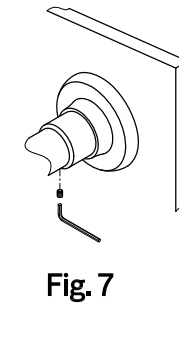

Fig. 7
Step 6. Attached shower rod into the mounting unit and screw the shower rod in securely (Fig 7).